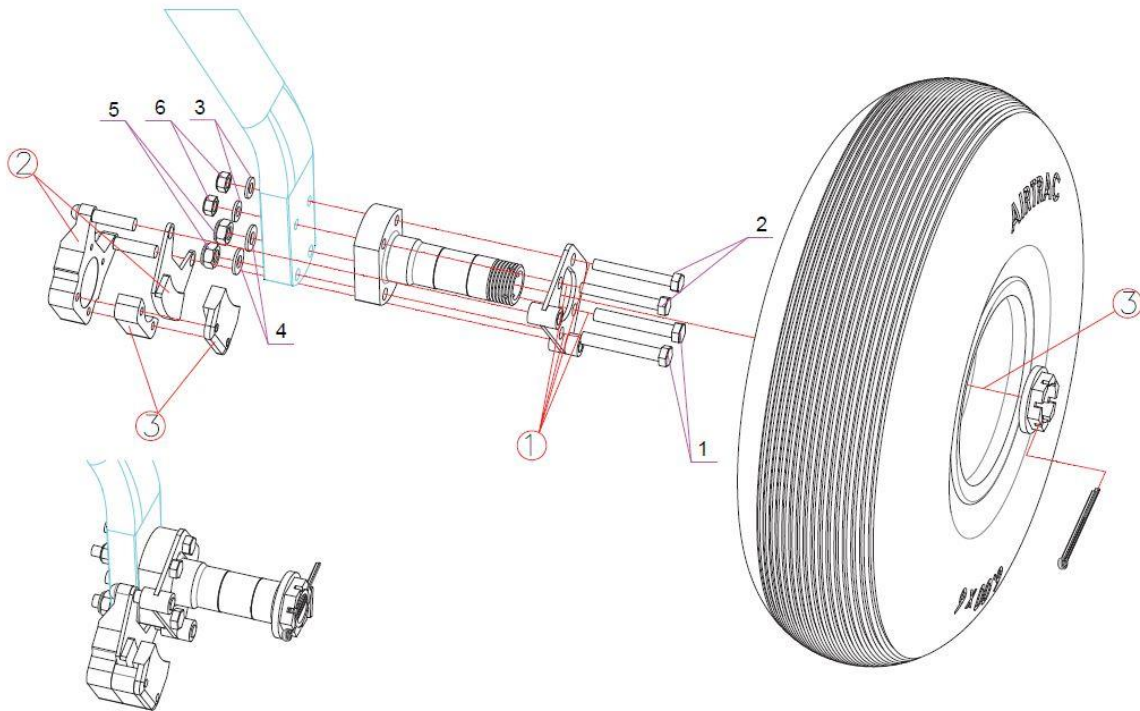

Figure 2.4.3.1: Main wheel installation with no spacer
1. Assemble as per the assembly steps shown in figure 2.4.3.1.